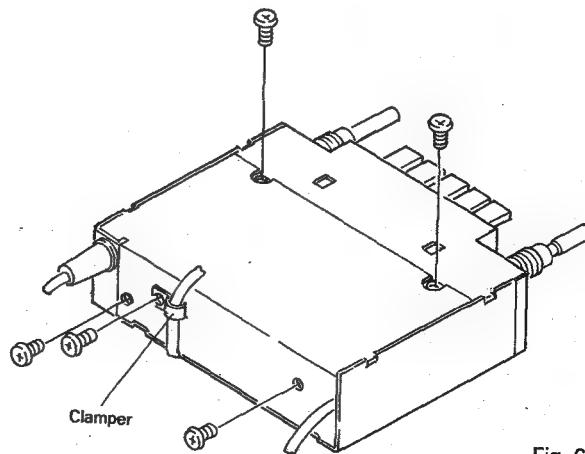

Fig. 6
2. Remove 4 mount screws (3 x 4mm) from lower case (see Fig. 6).
3. Remove screw (3 x 5mm) from clamer (see Fig. 6).